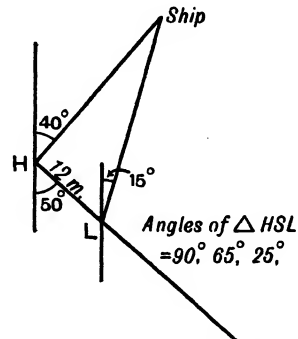

FIG. 90. DIAGRAM FOR EXAMPLE 2
2. A lighthouse, L, is 12 miles, S.  $50^\circ$  E., from the entrance of a harbour. At 9 a.m. a ship left the harbour. At 11 a.m. it is in a position N.  $40^\circ$  E. from the harbour and N.  $15^\circ$  E. from the lighthouse, Fig. 90. Find the speed of the ship in miles per hour.